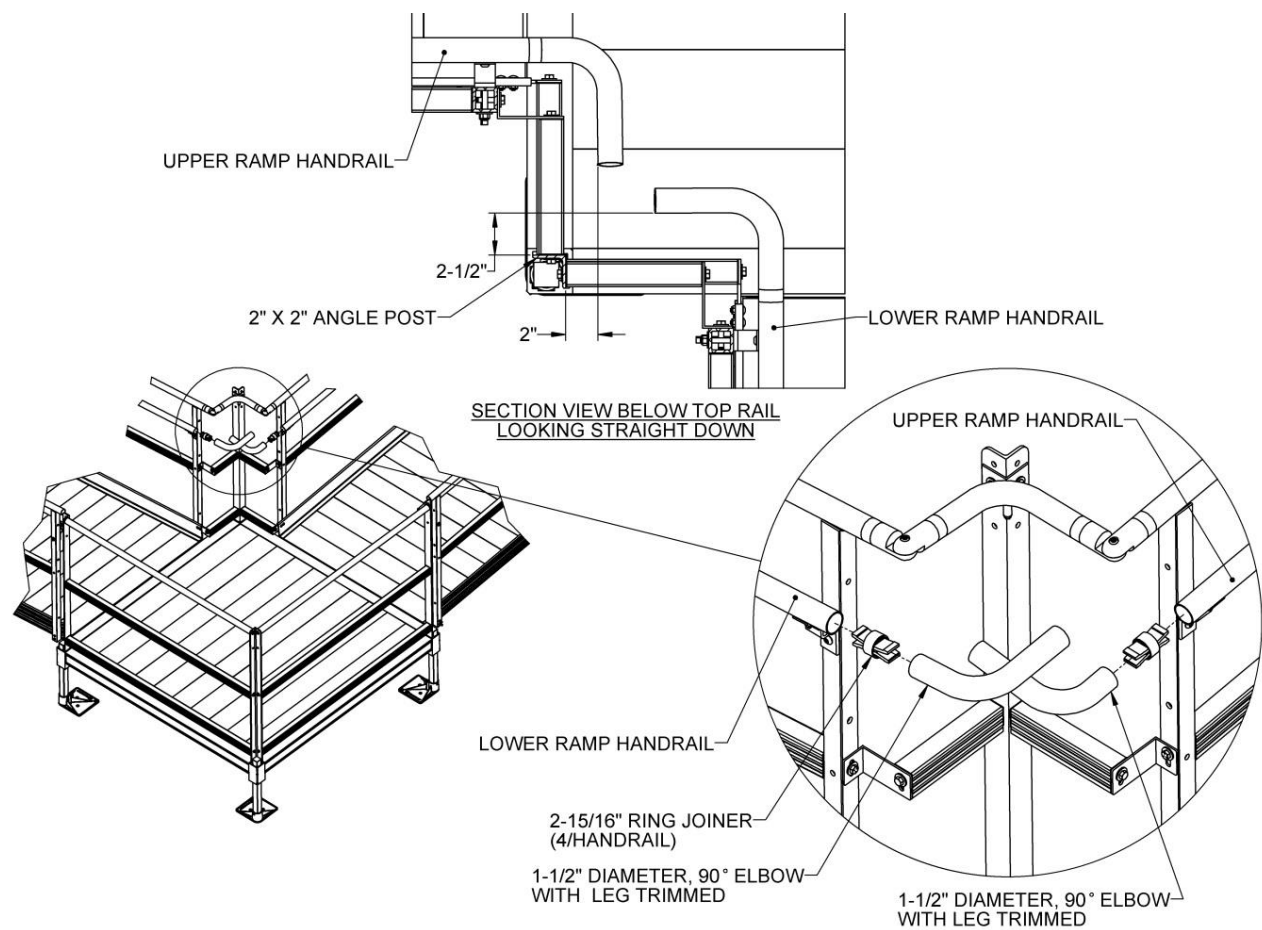

FIG. 5.41
- 5.9.11. Connect the Ramp Handrails at the corner turn by first trimming one leg of two 1-1/2" diameter, 90° elbows. Trim the elbow leg which will be installed on the lower Ramp Handrail such that the leg pointing toward the 2" x 2" angle post in the corner is 2-1/2" (approximately) from the angle post. Trim the elbow leg which will be installed on the upper Ramp Handrail such that the leg pointing toward the 2" x 2" angle post in the corner is 2" (approximately) from the angle post (FIG. 5.41).
- 5.9.13. Insert 2-15/16" ring joiners in the open ends of the Ramp Handrails. Install the 90° elbow leg trimmed for the lower Ramp Handrail to the joiner in the lower Ramp Handrail and the 90° elbow leg trimmed for the upper Ramp Handrail to the joiner in the upper Ramp Handrail. Orient the joiner set screws toward the underside of the ramp handrails and the 90° elbows toward the 2" x 2" angle post in the corner then tighten the joiner set screws enough to hold the elbows in place (FIG. 5.41).